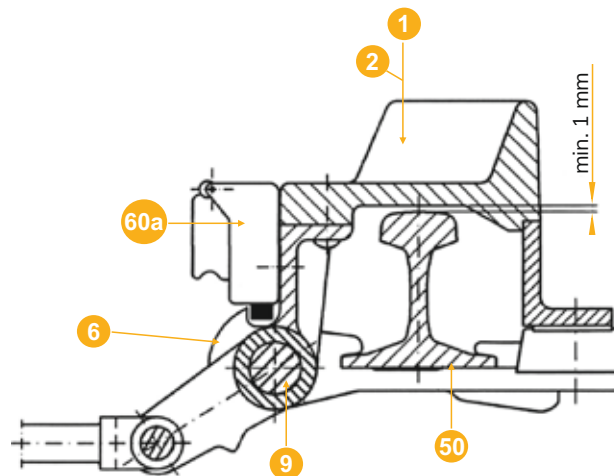

Fig. 6 Locking of the derailer in the derailing (left on) position
- Use the handle (32) of the wedge plate (12) to check if the derailer opens and closes smoothly.
- Ensure the rear edge of the wedge plate firmly rests on the stopping angle bracket (4).
- Ensure a gap of not less than 1 mm between the bottom plane of the wedge plate and the rail head (refer to Fig. 6).